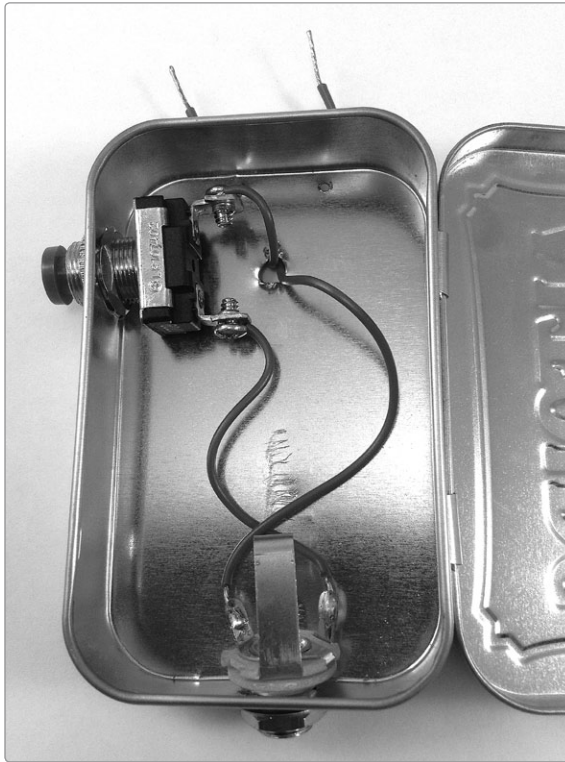

FIGURE 5-9: *The hardware in place*
Step 9 Mount the hardware in the tin and string the two loose wires through the 1/4-inch hole in the back of the enclosure, as shown in Figure 5-9.